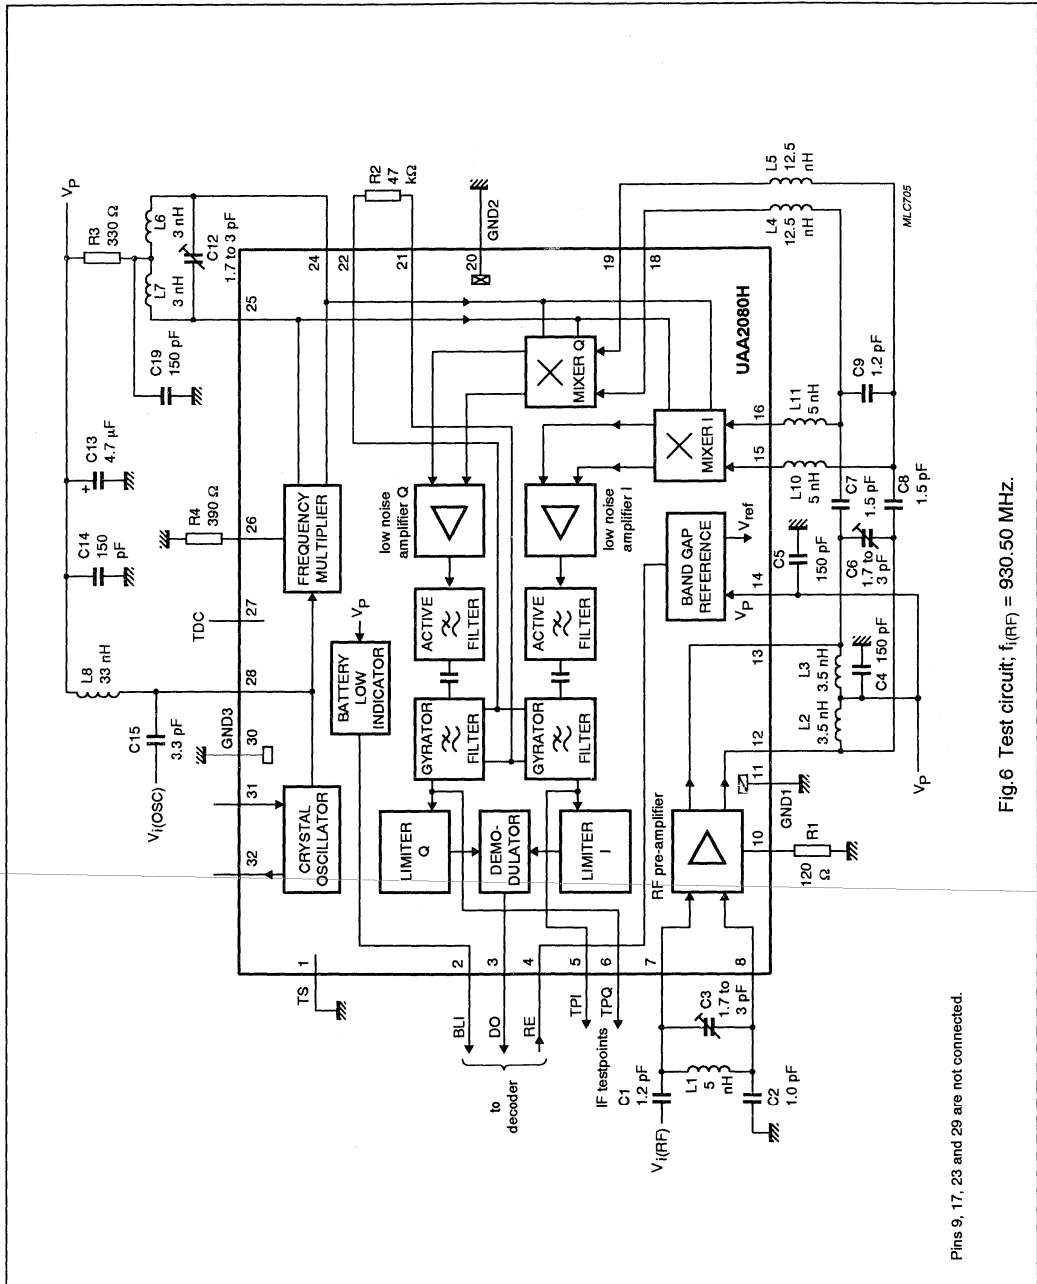

Fig.6 Test circuit:  $f_{(RF)} = 930.50 \text{ MHz}$ .
**Table 3** Tolerances of components shown in Fig.6 (note 1)